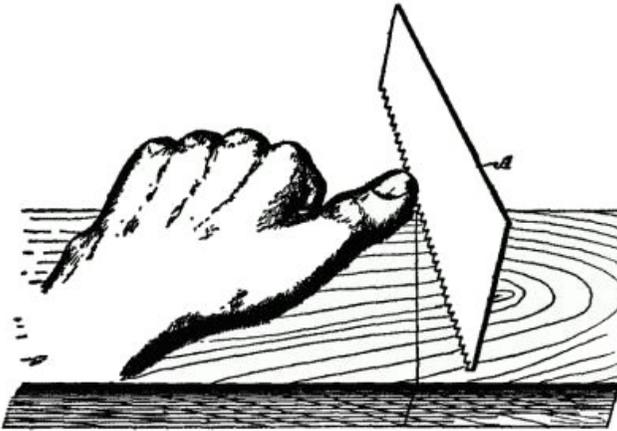

Fig. 20.
The Starting Cut.—In order to make our understanding of the starting cut more explicit, we refer to Fig. 20, in which the thumb of the left hand is shown in the position of a guide—the end of the thumb being held up a sufficient distance to clear the teeth. In this position you need not fear that the teeth of the saw (A) will ride up over the thumb if you have a firm grasp of the saw handle.